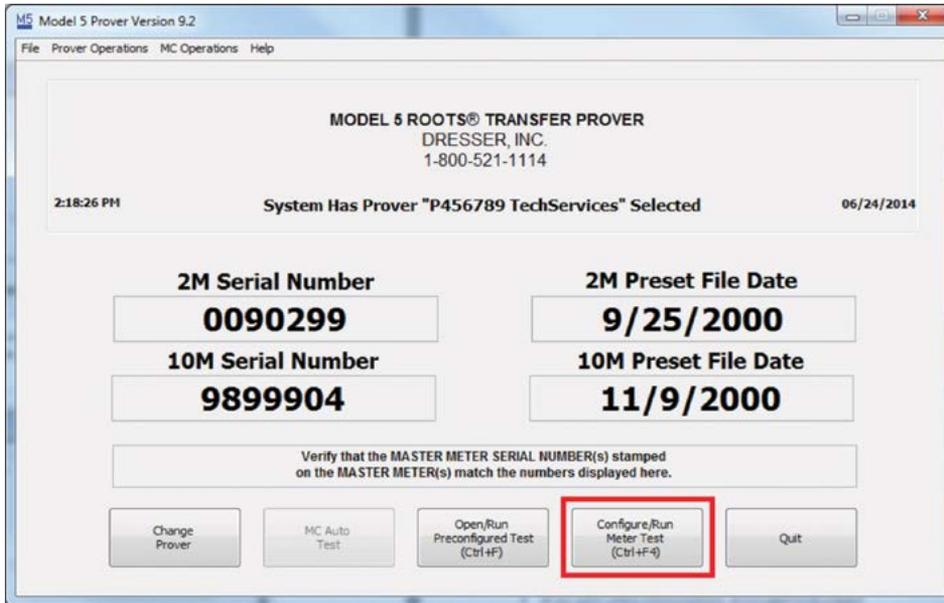

Figure 78: Configure/Run Meter Test Selection
1. From the Startup screen, access the Configure-Run Meter test screen by clicking the "Configure/Run Meter Test" button at the bottom of the screen as shown in **Figure 78**.